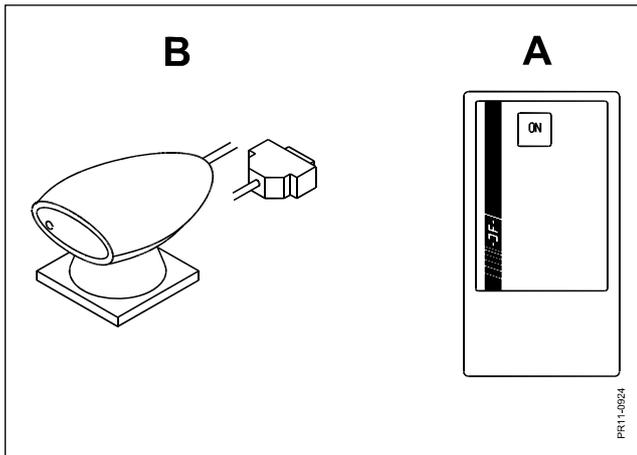

Fig. 7.6
**Fig. 7.6** This menu point makes it possible to send data to PROFEED or receive data from PROFEED. A condition is that you have got an infrared hand terminal (A) and a receiver/transmitter (B), which must be connected to the PC to be communicated with. The equipment makes it possible to transfer non-existing foodstuffs to the Profeed system. Regarding Ordering Numbers: see spare parts list.